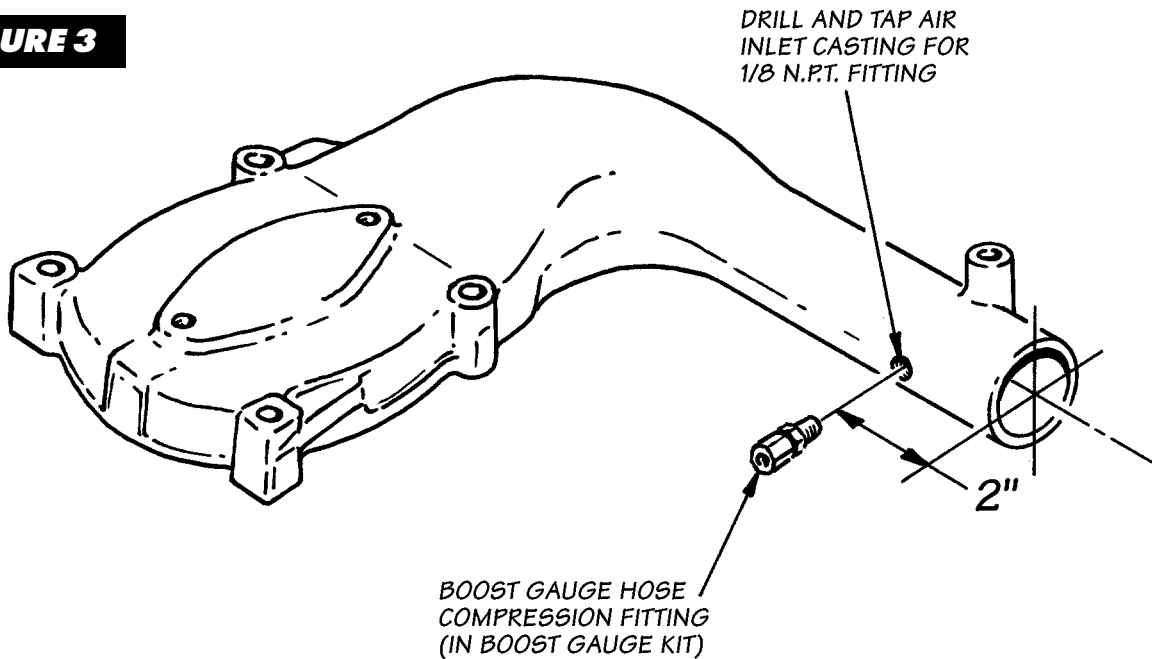

FIGURE 4
14. Install the Banks Stinger exhaust system as shown in Figure 4. Adjust the turbo outlet pipe and exhaust system to provide maximum clearance to frame and other components. Check alignment of muffler and tailpipe to hangers and vehicle. When alignment and clearances look good, tighten all clamps, including clamp at turbocharger outlet elbow.